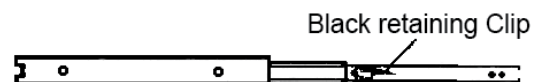

fig.1
- 3.3.2. Release the black retaining clips by pushing the righthand side clip up and the left hand side down simultaneously, and pulling the draw out fig.1.